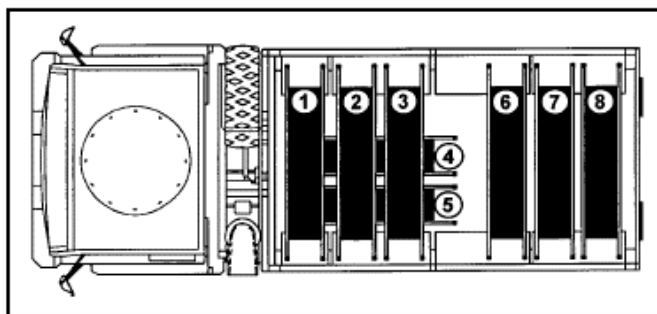

Figure 3-57
3. Direct nonmedical soldiers to load an M-1093. (See Figure 3-57.)